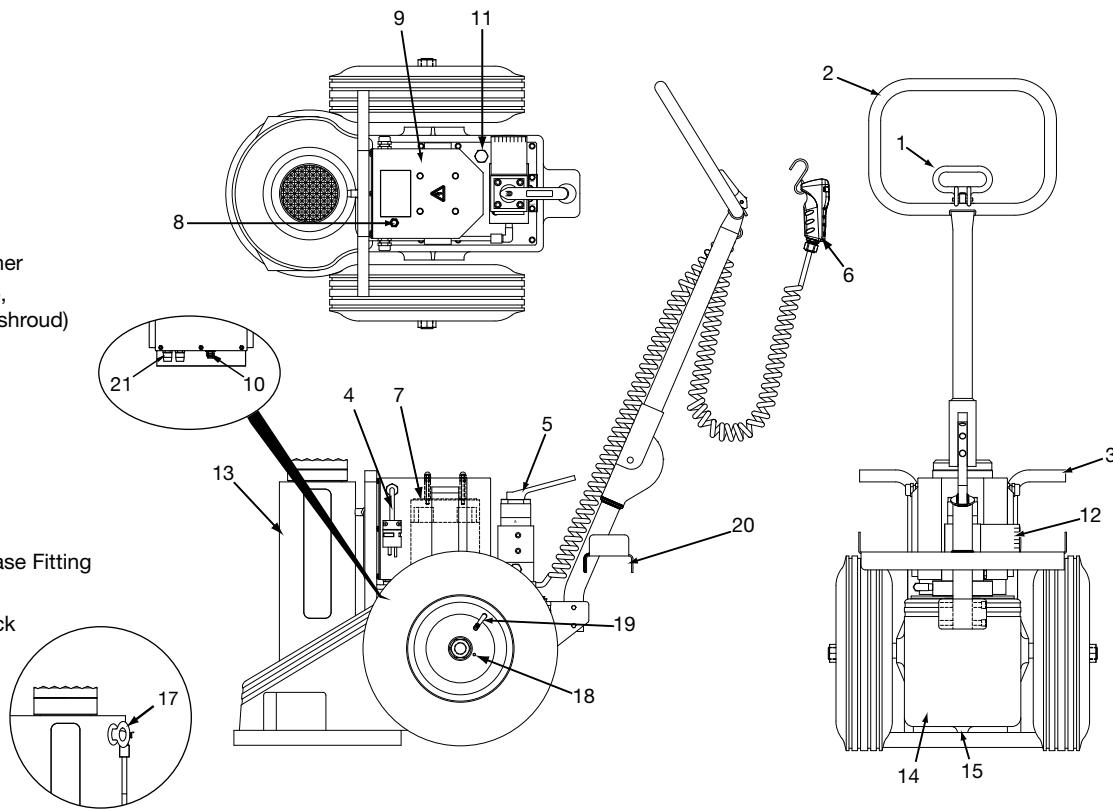

Figure 1, Major Features and Components - PREMB, PREME and PREMI Series (single-phase power)
Before startup, remove the oil fill plug (see figures 1 and 2, item #11) and check oil level. Oil level should be about 1 inch [25 mm] below top of reservoir. Add Enerpac HF hydraulic oil to reservoir if necessary. Refer to Section 6.1 for additional information.
Note: See figures 1 and 2 for items in parenthesis (...).
A resettable circuit breaker is used on all jack models equipped with a single-phase electrical system. This includes jack model numbers beginning with PREMB, PREME and PREMI. The circuit breaker reset button is mounted on the lower surface of the jack electrical enclosure. See Figure 1, item 10 for location.